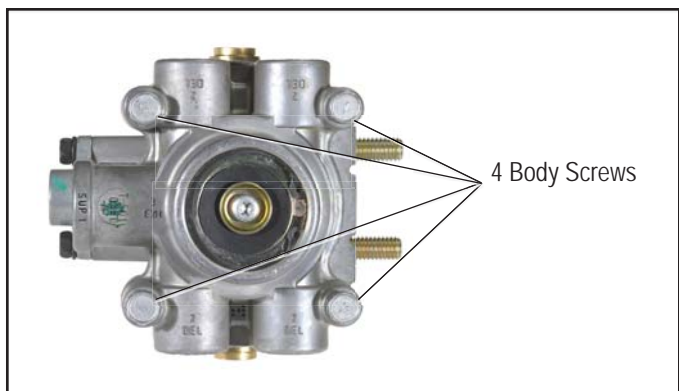

Figure 4 - *BOTTOM VIEW OF SR-7™ VALVE*
4. Using a 7/16" wrench remove the four screws that secure the upper and lower bodies of the SR-7™ valve. Refer to Figure 4. Do not disconnect additional hoses or fittings. The separation between the upper and lower body should be approximately three inches to allow adequate room to install this kit.